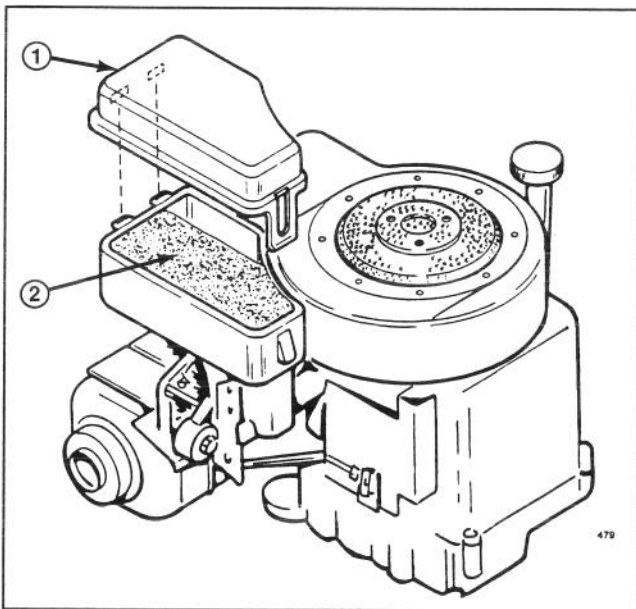

Figure 9
2. Unsnap and lift the air cleaner cover off the carburetor (Fig. 9).
3. Remove the foam element (Fig. 9). Examine the element for dirt or discoloration and clean if necessary.